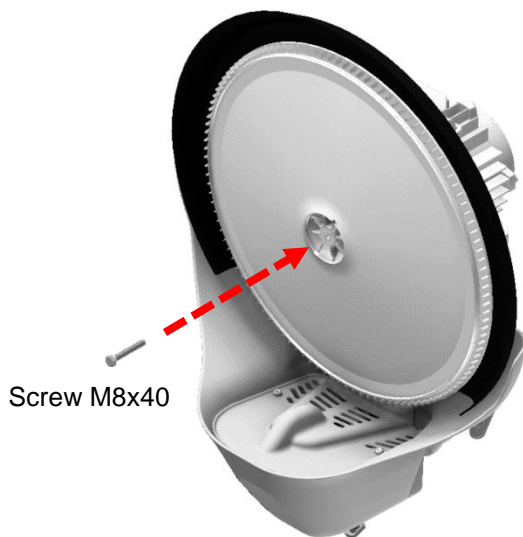

Fig. 4.4.3
- Insert the M8x40 screw supplied with the unit into the central hole of the rotating disc (Fig. 4.4.3)